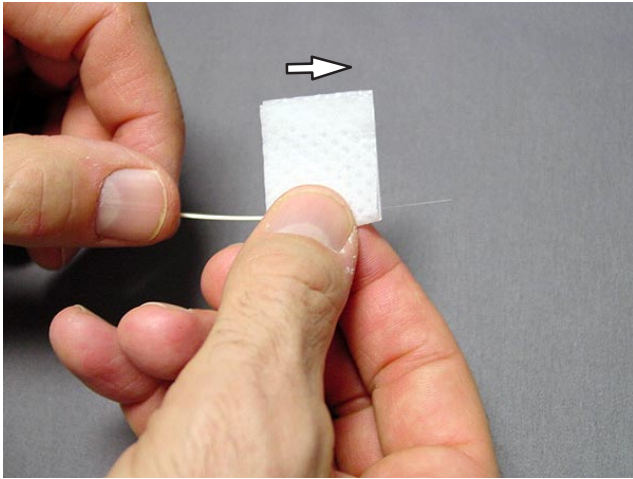

Figure 17
5. Clean the fiber on the second end (refer to Paragraph 5.1.A.8). See Figure 17.